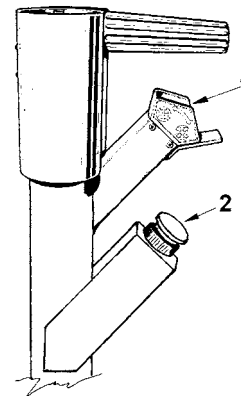

Fig.14
9. To open and close the chuck, operate the appropriate control (#1 fig.14).
10. Press the emergency STOP button (#2 fig.14): This renders all controls inoperative.